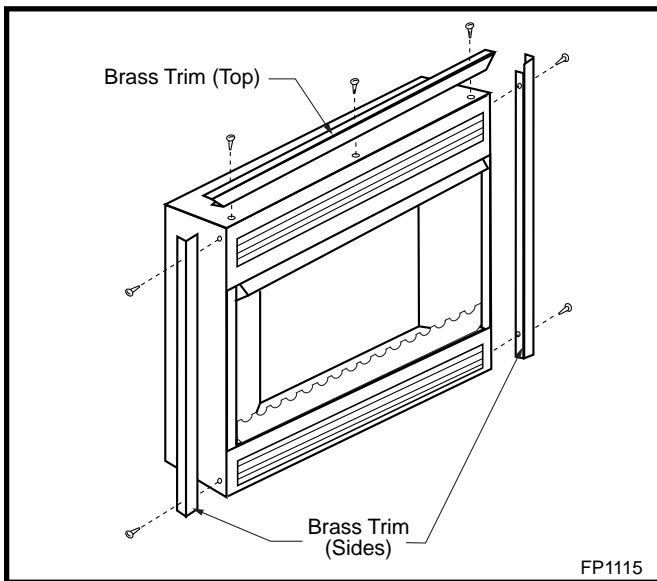

Fig. 7 Install brass trim.
2. Using the (2) screws provided, attach the side pieces to the heater. (Fig. 7)